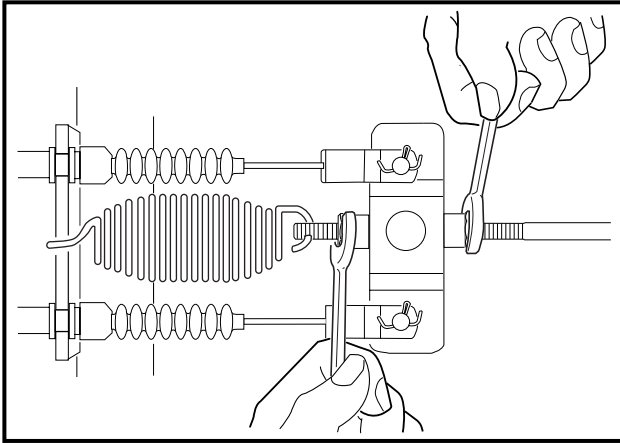

FIGURE 6-1
1.1. To provide slack in the brake cables, loosen hex nuts on the brake equalizer rod (**Figure 6-1**).